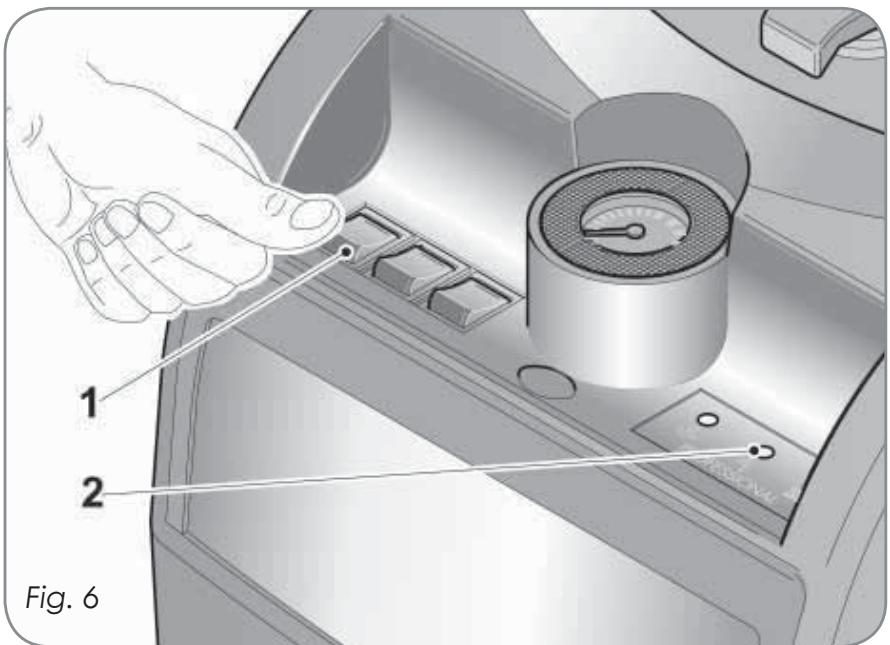

Fig. 6
Turn on the machine using the main switch located on the side of the control panel. (The pressed key will light up - 1 Fig. 6)
When the boiler is filling with water, the indicator (2 - Fig. 6) and the acoustic signal switch off.
- If during filling the level probe located in the tank should remain exposed, the system immediately stops refilling operations and the signal lamp (2 fig.6) starts blinking together with an intermittent acoustic signal.
- Each time the tank level probe senses a low water level, the system immediately stops refilling operations and the signal lamp (2 fig.6) starts blinking together with an intermittent acoustic signal.
**- WARNING!** If during the normal refilling phase the boiler level probe remains exposed for more than **3 minutes** consecutively, the system disables heating and refilling functions, and the signal lamp starts blinking along with an acoustic signal. At this point the generator must be reset by turning the general switch off and then back on (1 fig. 6).